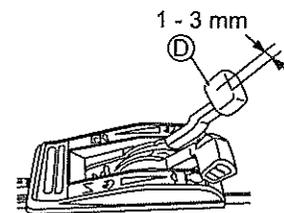

Fig. 27.
Adjust the play of Gearshift lever (D) to 1 - 3 mm as shown in Fig. 27.